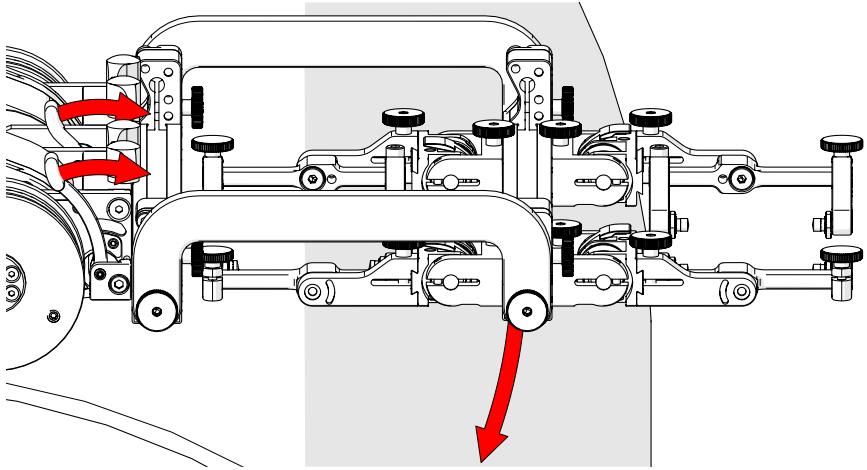

Fig. 221 - Align swivel mount with scan surface
4. Release the two swivel mount levers (Fig. 221) to position the swivel mount parallel to the scan surface (Fig. 222). When alignment with scan surface is achieved, lock the crawler swivel mount levers.